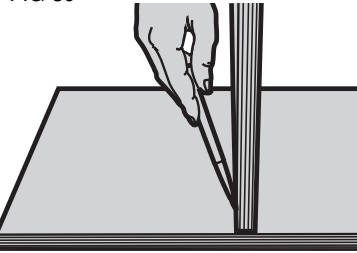

FIG 31
- Lay the shelf down on the mating workpiece. Clamp the two workpieces together and to the work surface in this position (see Figure 31).